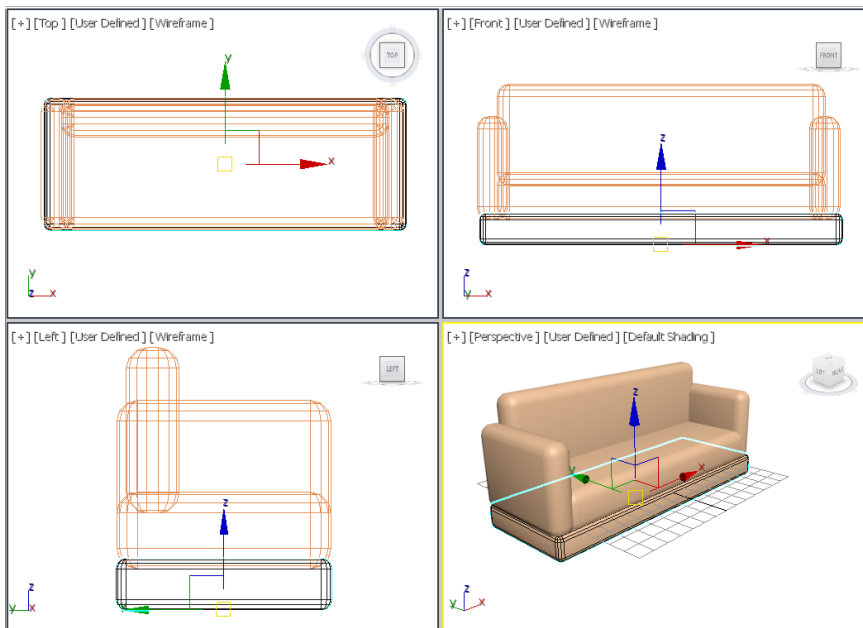

Figure 3-24 The base geometry displayed in the viewports
2. Choose the **Create** button; another chamfer box is created, as shown in Figure 3-24.